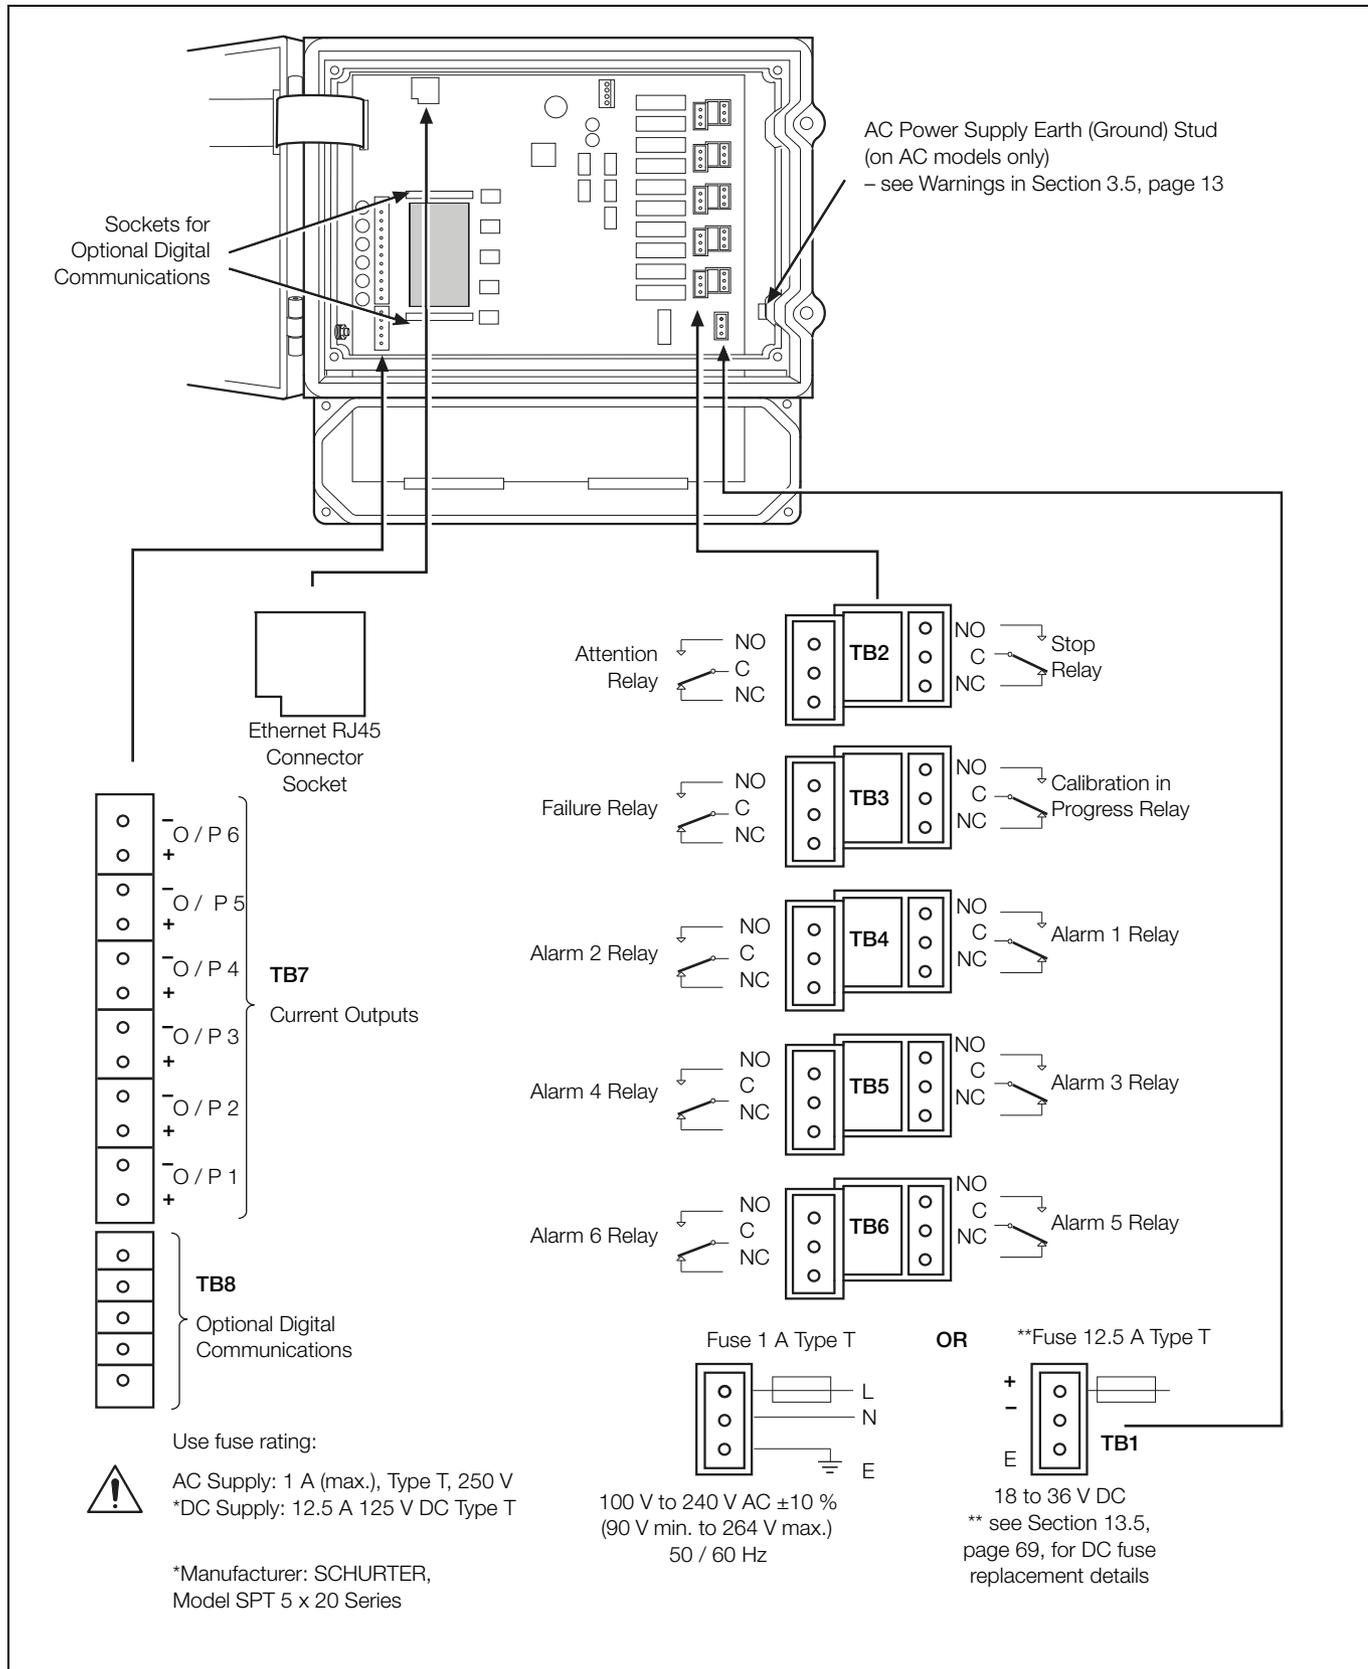
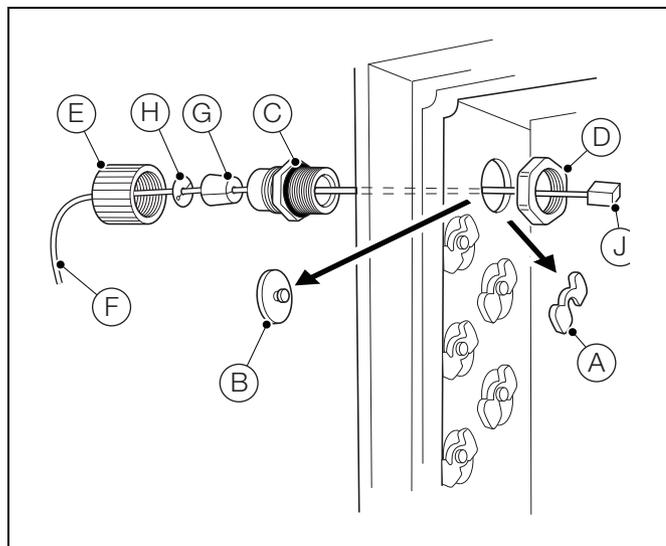

Fig. 3.5 Connections Overview
Fig. 3.7 Ethernet Connections
- Ensure the correct fuses are fitted – see Fig. 3.5, page 14 for fuse details.
- Application board connection terminal blocks TB1 to TB8 are identified in Fig. 3.5 on page 14.
1. Turn the electronics section door retaining screws (A)  $\frac{1}{4}$  turn counter-clockwise and open the door.
2. Using a cross-head screwdriver, remove 4 screws (B) and remove transparent cover plate (C).
3. Slide retaining clip D off blanking plug (E) and remove the blanking plug.
4. Fit cable gland (F) and secure using nut (G).
5. Remove gland cover (H) and route cable (J) through it.
6. Route the cable through cable gland (F) and through the enclosure case.
7. Remove terminal block connection plug (K) and, using a small flat-bladed screwdriver, make connections to the plug. Ensure wires are connected to the correct terminals – see Fig. 3.5, page 14.
9. Tighten gland nut (H).
12. Refit transparent cover plate (C) and secure using 4 screws (B). Close the door to the electronics section and turn door retaining screws (A)  $\frac{1}{4}$  turn clockwise to secure.
2. Referring to Fig. 3.7:
- a. Slide retaining clip (A) off blanking plug (B) and remove the blanking plug.
- b. Fit cable gland (C) and secure using nut (D).
- c. Remove gland cover (E) and route cable (F) through it.
- d. Fit the rubber split-bush (G) and split-washer (H) over the cable.
- e. Route the cable through cable gland (C) and into the enclosure case.
- f. Plug the RJ45 connector (J) into the Ethernet RJ45 connector socket on the application board (see Fig. 3.5, page 14 for location details) and tighten gland nut (E).